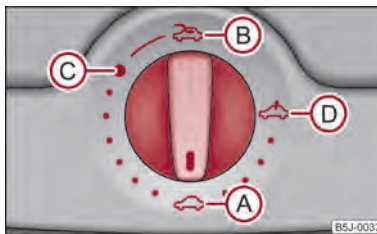

Fig. 20 Detail of the headliner: Control dial for the power sliding/tilting roof
The sliding/tilting roof is operated by means of the control dial ⇒ fig. 20 and only functions when the ignition is switched on. The control dial has several positions.
- Turn the switch to position **C** ⇒ fig. 20.
- Turn the switch to position **A** ⇒ fig. 20.
The sliding/tilting roof is fitted with a force limiter. If an obstacle (e.g. ice) prevents closing, the sliding/tilting roof stops and opens completely. You can close the sliding/tilting roof completely without force limiter by pressing the switch to the **A** position ⇒ fig. 20 at the front for as long as it takes for the sliding/tilting roof to close completely ⇒ **A**.
It is necessary after each emergency operation (using Allen key) to move the sliding/tilting roof into the basic position. Here you have to turn the control dial forward to the switch position  => fig. 20 and press for about 10 seconds. ■